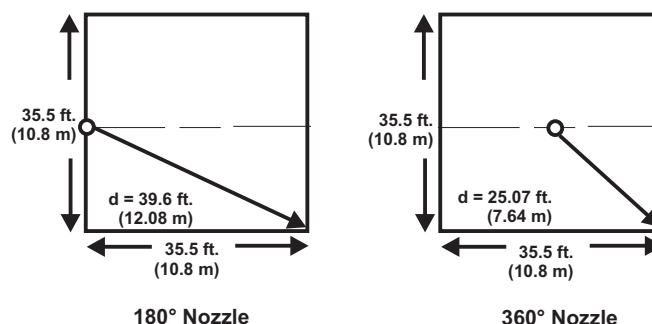

Figure 3-5. Nozzle Placement and Coverage
- 180° Nozzles**-180° nozzles must be located 6 +/- 2 inches (0.15 +/- 0.05 m) from a wall, with the orifices directed away from the wall. The nozzle shall be located as close to the center of the wall as possible, but at least 1/3 of the way along the wall. 180° nozzles have a maximum coverage area defined as a square that can be inscribed in a semicircle of distance 39.8 ft (12.1 m, diagonal of a rectangle 17.8 ft x 35.6 ft). Refer to Figure 3-5 for further information. 180° nozzles may be used in a back-to-back configuration. The nozzles should be placed 1 to 2 ft (0.3 m to 0.6 m) apart.
- **360° Nozzles**-360° nozzles must be located as close to the center of the enclosure as possible. 360° nozzles have a maximum coverage area defined as any square that can be inscribed in a circle of radius 25.2 ft (7.7 m, diagonal of a square 17.8 ft x 17.8 ft). Refer to Figure 3-5 for further information.